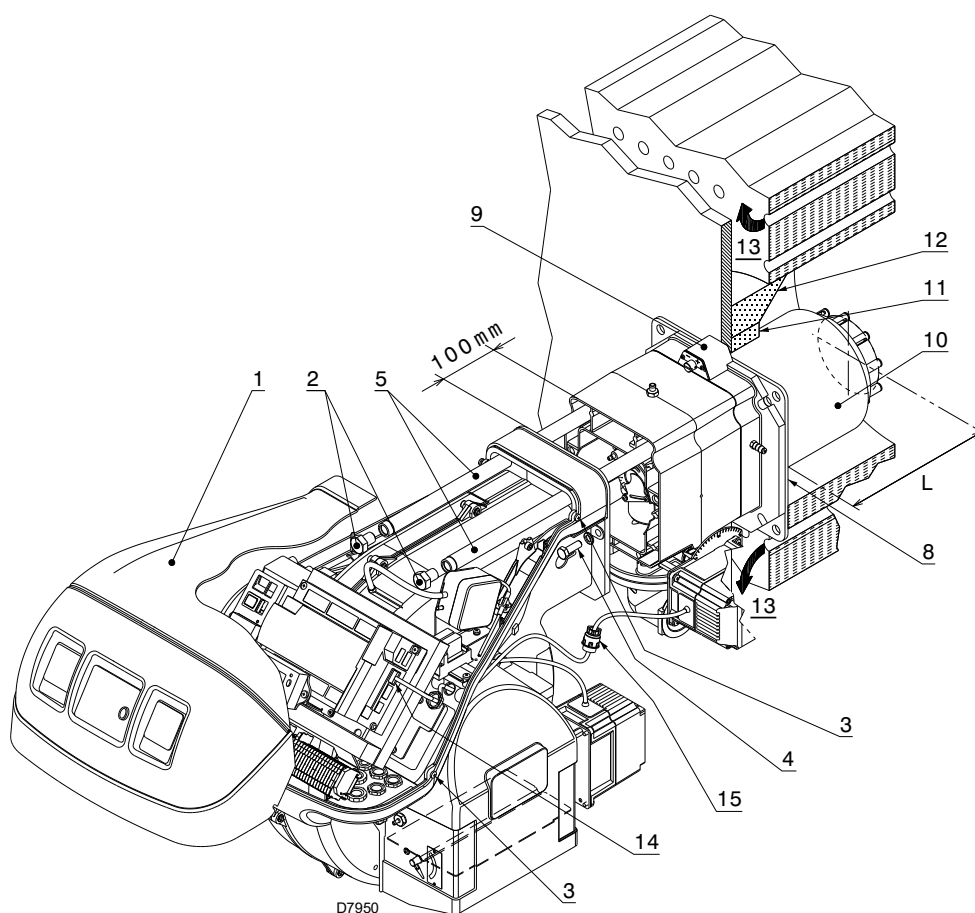

Fig. 17
For boilers with front flue passes 13)(Fig. 17 at page 25), or flame inversion chambers, a protection in refractory material 11) must be inserted between the boiler refractory 12) and the blast tube 10).
Separate the combustion head from the rest of the burner, as in Fig. 17; proceed as follows:
- reassemble the burner on the guides 3) at about 100 mm from the pipe coupling 4) - burner in the position shown in Fig. 17;
- connect the plug of the servomotor 14)(Fig. 17) and tighten the grommet 15);